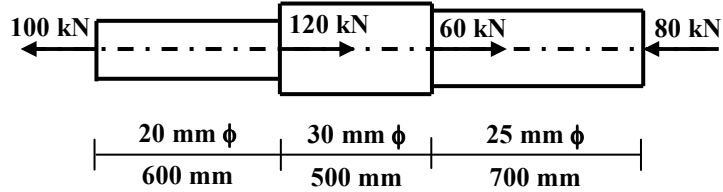

FIGURE-1 Q-2 (b)
- (b) A steel bar is subjected to axial forces as shown in figure-1. Calculate change in length of the bar. 7